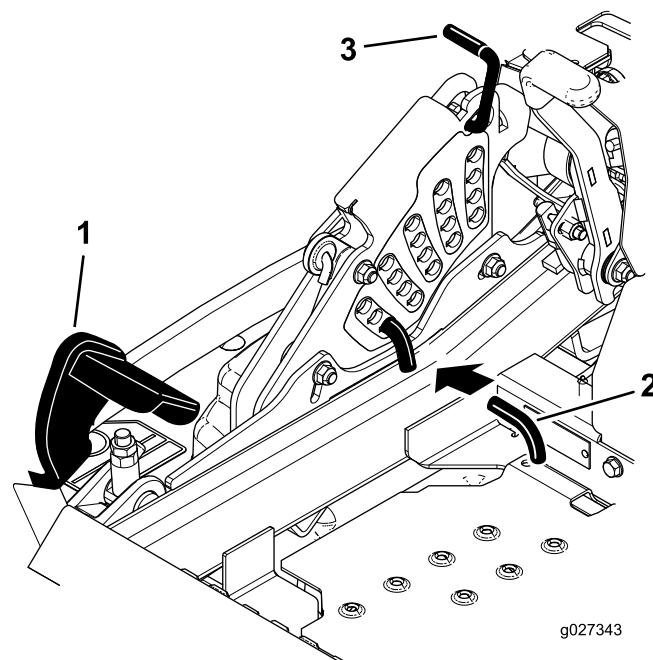

Figure 25
2. Push on the deck lift pedal with your foot and raise the mower deck to the transport position (also the 140 mm (5-1/2 inch) cutting height position) (Figure 25).
3. To adjust, rotate the pin 90 degrees and remove the pin from the height-of-cut bracket (Figure 25).
4. Select a hole in the height-of-cut bracket corresponding to the height-of-cut desired and, insert the pin (Figure 25).